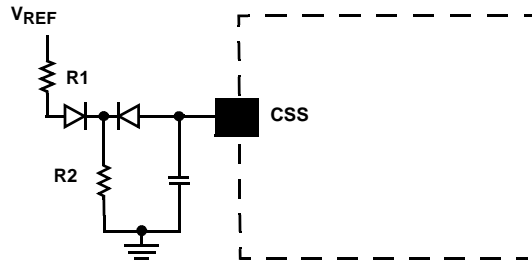

FIGURE 5. REFERENCE-BASED CLAMP CIRCUIT
- Per Equation 3, the clamping voltage is a function of the charge current I_{SS} . For a more predictable clamping voltage, the CSS pin can be connected to a reference-based clamp circuit as shown in Figure 5. To make the V_{clamp} less dependent on the soft start current (I_{SS}), the currents flowing through R1 and R2 should be scaled much greater than I_{SS} . The relationship of this circuit can be found in Equation 4.